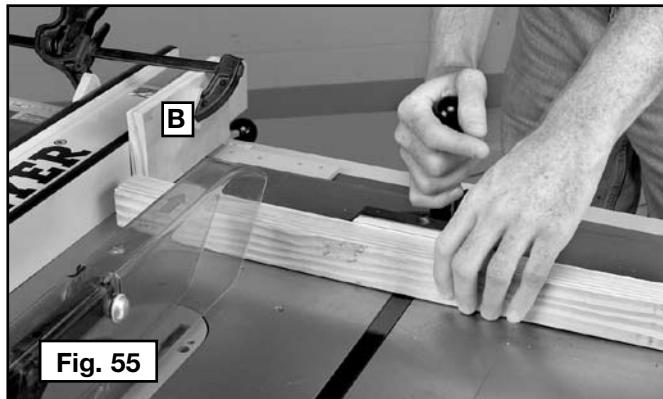

Fig. 55
When cross-cutting a number of pieces to the same length, clamp a block of wood (B) to the fence and use it as a cut-off gauge (Fig. 55). The block (B) must be at least 3/4" thick to prevent the cut-off piece from binding between the blade and the fence during removal from the saw table. Always position this block of wood in front of the saw blade. Once the cut-off length is determined, lock the fence and use the miter gauge to feed the work into the cut.
⚠CAUTION: When using the block (B) Fig. 55 as a cut-off gauge, position the rear end of the block so that the workpiece is clear of the block before it enters the blade.